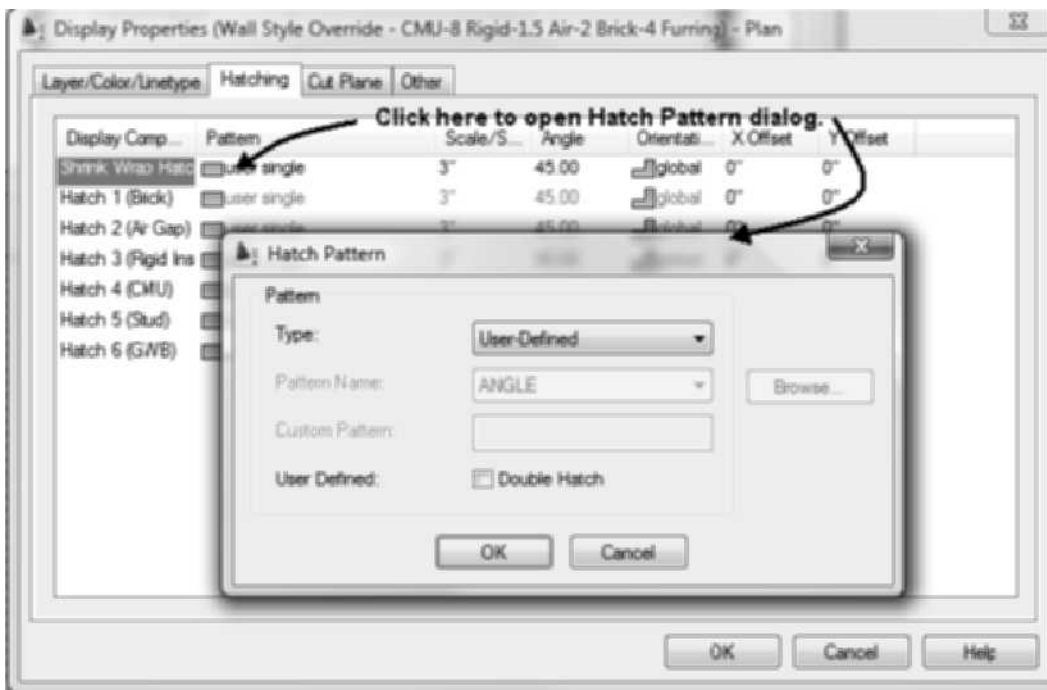

FIGURE 3.29 Setting the hatch pattern in the Hatching tab
53. Choose the Hatching tab to specify the hatch pattern, scale, orientation, and offsets for the hatch. To change the hatch properties, click in the respective column and edit the hatch pattern, hatch scale factor, angle, orientation, X offset, and Y offset. If the **By Material** checkbox is clear in the Layer/Color/Linetype tab for a display component, the default **User Single** pattern is applied as shown in Figure 3.29. You can select other hatch patterns by selecting the **User Single** option of the **Pattern** column to display the **Hatch Pattern** dialog box shown in Figure 3.29.